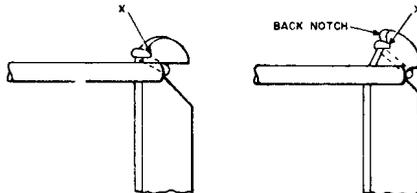

FIGURE 15. Termination of Wire on Vertical Terminal with a Single Notch
6.10 To terminate a wire on a terminal which is in a vertical position (horizontal IDF), with a single notch (either with or without a back notch), bring the wire along the left side of the terminal, through the notch, along the right side of the terminal, and across the back (or through the back notch, where provided). See Figure 15. Cut or break the excess wire at point X.